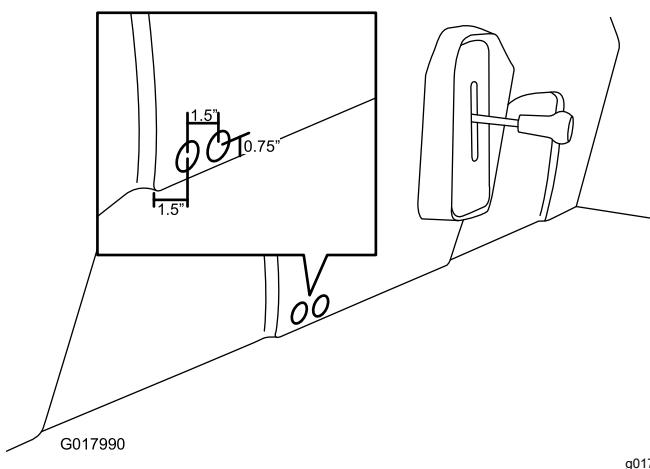

Figure 31
1. Mark and drill 2 holes in the seatbase using a hole saw (1 inch) as shown in Figure 31.